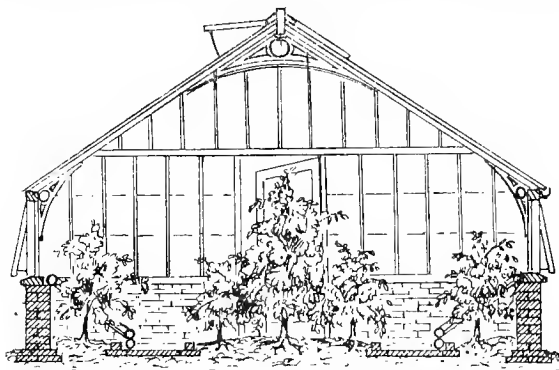

FIG. 12.
**Roses.**—The house for roses should be fairly wide and very well ventilated, but not too lofty, in order that the plants may be fairly close to the glass. A good type of rose-house, where the plants are to be set out in beds or borders, is shown in Fig. 12. For roses in pots, for forcing,